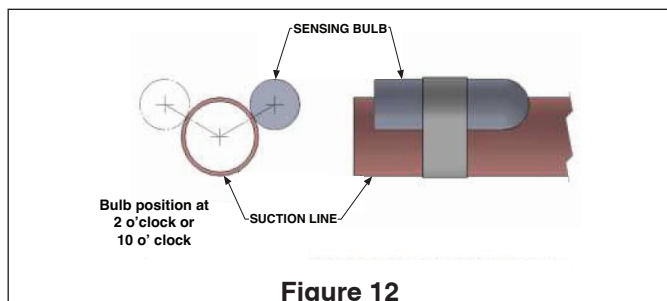

Figure 12
- d. The recommend installation position for the TXV bulb is parallel to the ground (on a horizontal plane). The bulb position should be at 2 o'clock or 10 o'clock. See Figure 12.